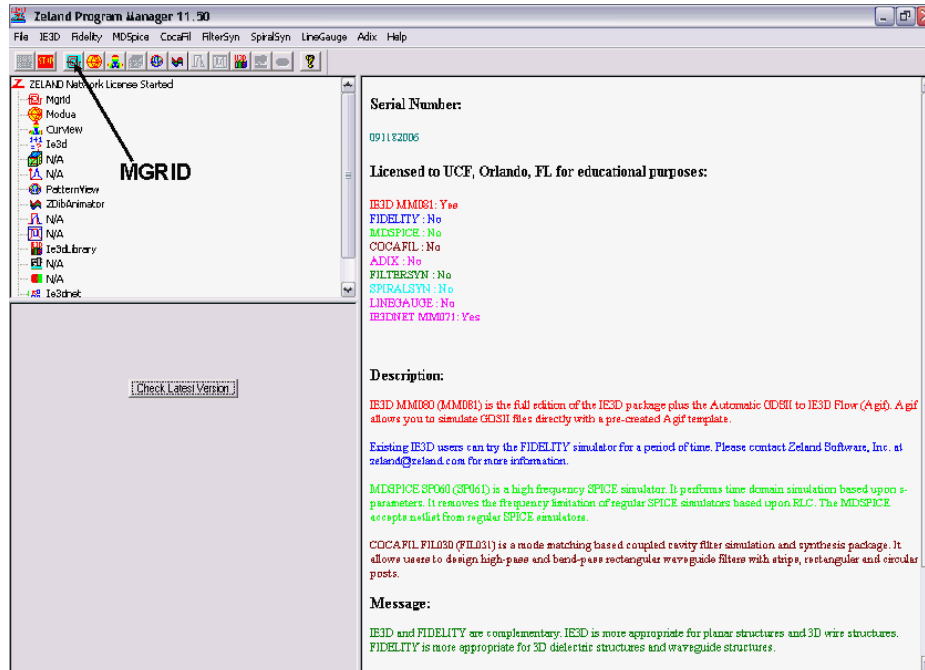

Figure 1. Zeland Program Manager.
- 1) Run Zeland Program Manager. You will see a layout similar to that shown in Figure 1.
- 2) Run MGRID by clicking on the MGRID button () shown in Figure 1. MGRID is the main interface of IE3D, in which you can draw the layout of the circuit to be simulated. Notice that all the fields are empty.